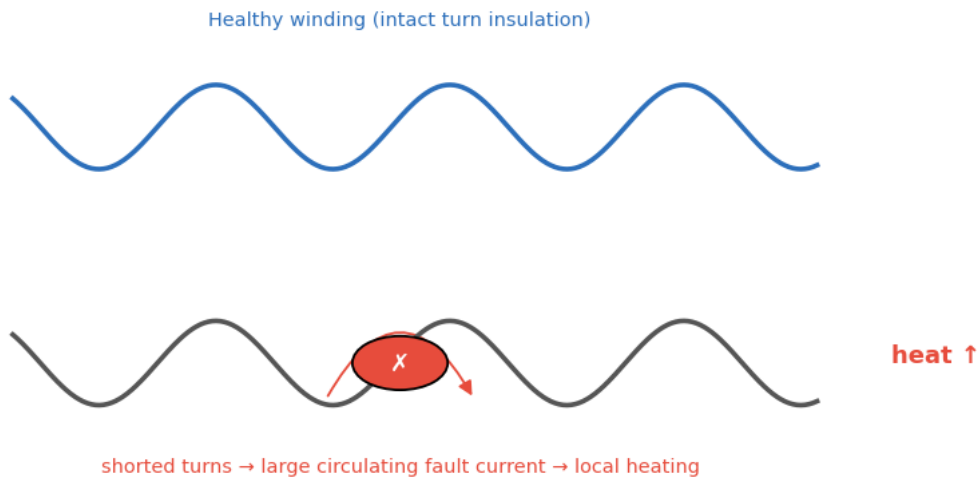

Figure 8: Fig. 8 — Inter-turn short mechanism
- **Mechanism (Fig. 8):** the failed insulation creates a **shorted loop**. The rotating flux induces a large **circulating current** in those few turns (can be many times rated current), causing intense **local heating**.